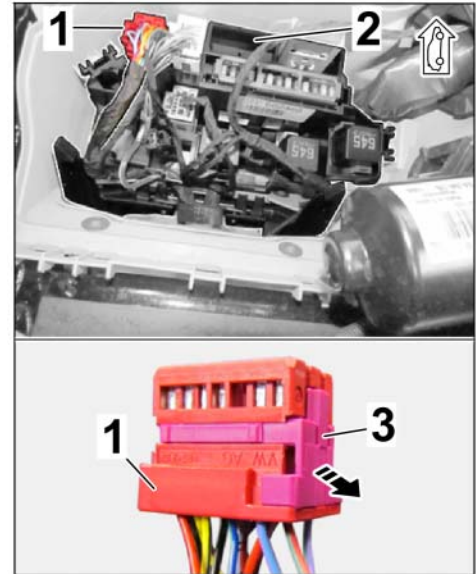

Figure 44
3.5.1 Remove and release connector (17-pin, red) from fuse/relay carrier (E-box, connection point X371.1A1) (⇒ *Figure 44*).